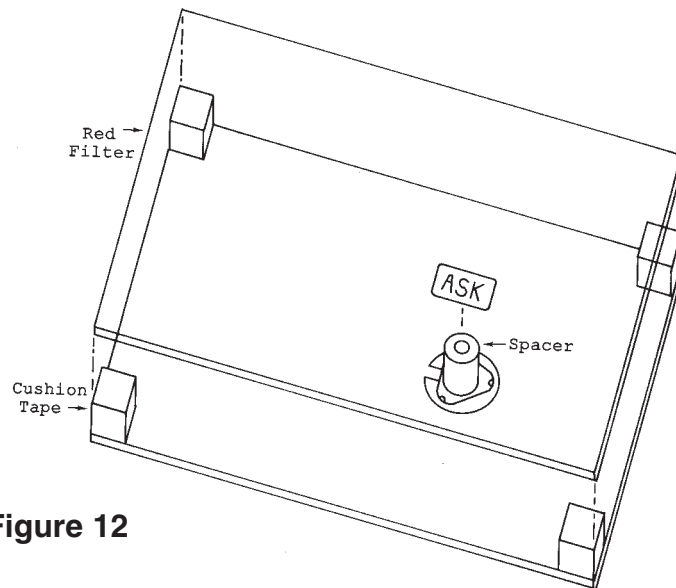

Figure 12
□ Stick the 7/32 inch spacer onto the dimple switch as shown in Figure 12.
- Use a scissor or single edge razor blade to cut the thick cushion tape into four 1/4 inch pieces. Peel off one of the protective layers and stick the tape to the corners of the PC board as shown in Figure 12.
- Remove the remaining protective backing from the cushion tape. Align the word ASK on the red filter with the 7/32 inch spacer and stick the filter to the cushion tape as shown in Figure 12.